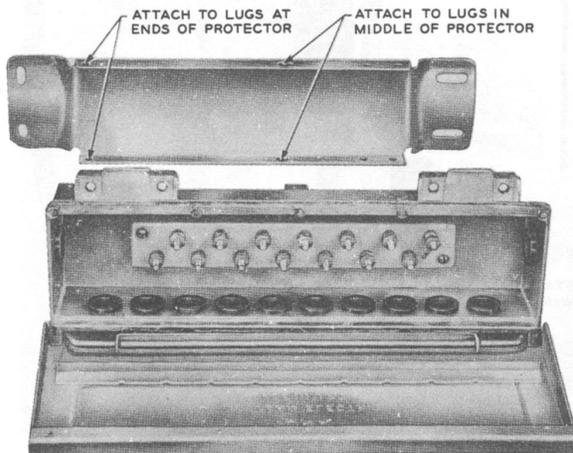

Fig. 1 — 104A Wire Terminal with a 45A Mounting Plate
3.01 The 104A wire terminal shown in Fig. 1 employs a mounting similar to a 10-pair, N-type distribution terminal, but is equipped with a terminal block having facilities for connecting 6-pair multiple drop wire. Two binding posts on the extreme right are strapped together internally and are used for station signaling grounds.